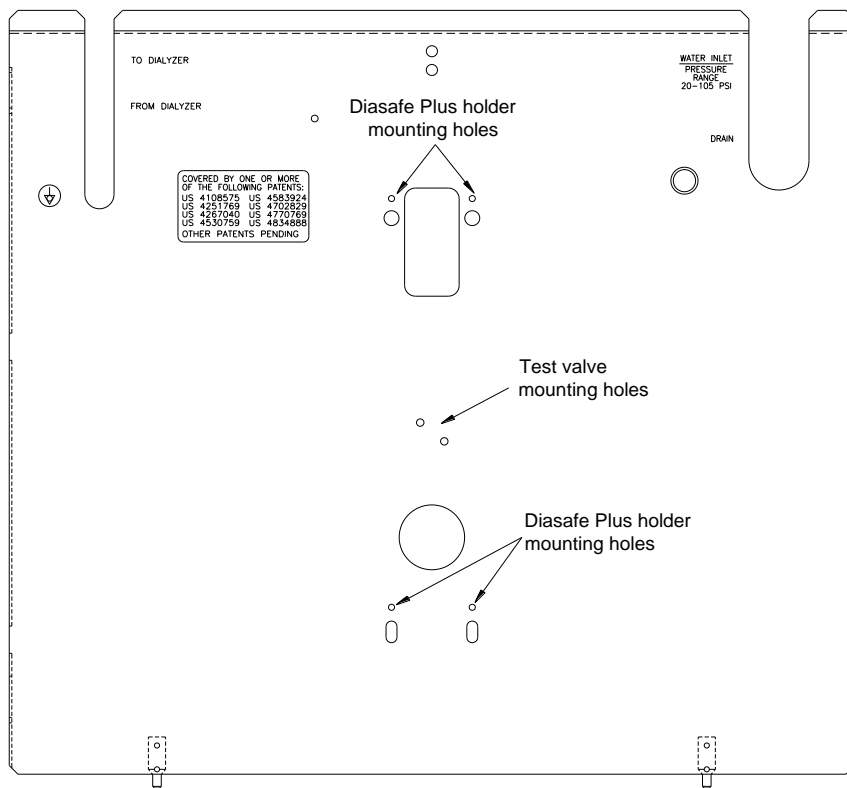

Figure 3
- 8 Mount the DIASAFE[®] PLUS filter test valve assembly onto the inside of the new rear panel (P/N 190421) using the two (2) saved screws. See Figure 3 for location.